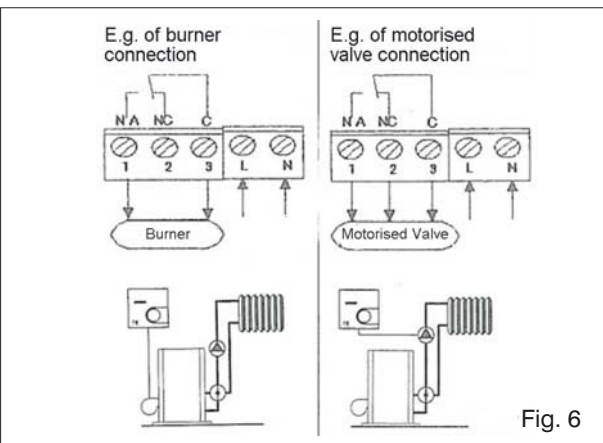

Fig. 6
- Connect the load to terminals C-NA-NC according to control requirements (**Fig. 6**)